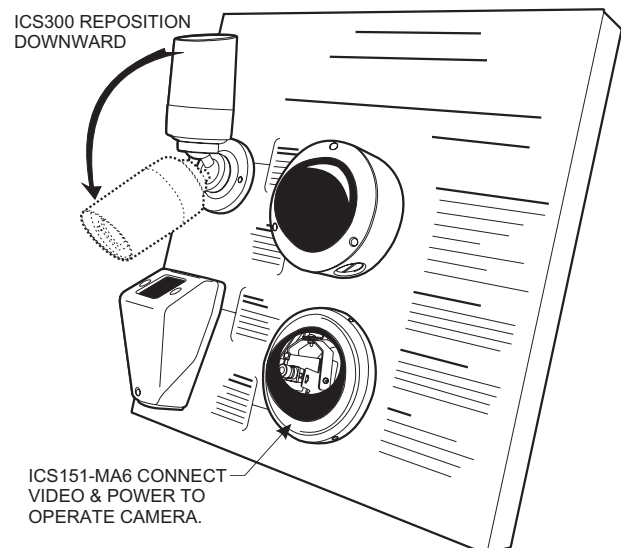

Figure 2. Front View
2. Reposition the ICS300 enclosure located on the front of the display (refer to Figure 2). Loosen the locking collar at the base of the ICS300 and reposition the enclosure downward.
3. Reposition the ICS300 enclosure located on the front of the display (refer to Figure 2). Loosen the locking collar at the base of the ICS300 and reposition the enclosure downward.